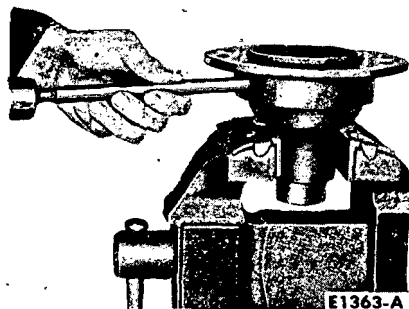

FIG. 33—Driving Out Differential Pinion Shaft
7. Drive out the pinion shaft with a brass drift (Fig. 33).